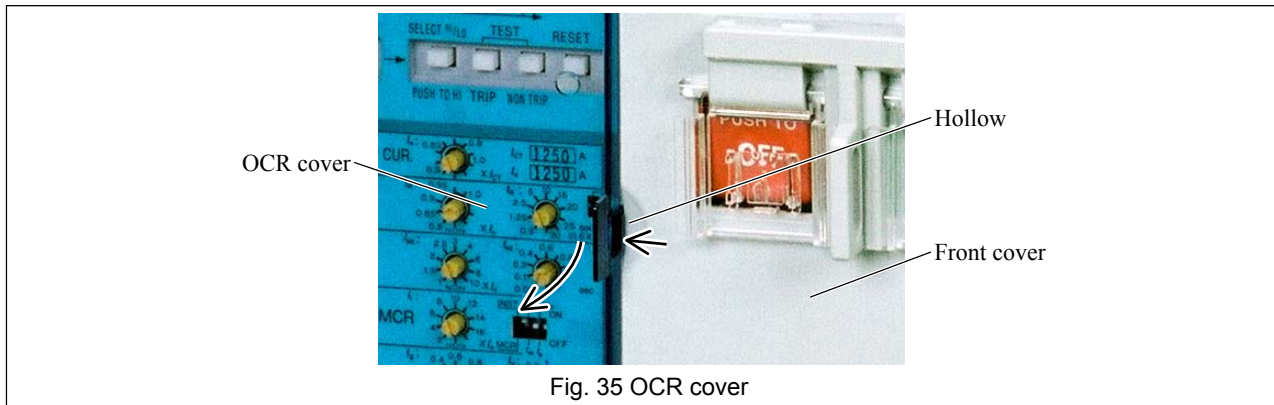

Fig. 35 OCR cover
- 2) Push the right end of the OCR cover to the left at the hollow on the front cover to unlatch and open the OCR cover. See Fig. 35.